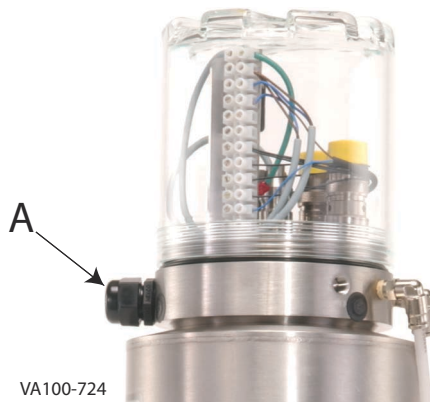

Figure 4 - Control Top Wire Connection Point
6. Connect the electrical control cord to the valve at location A (see Figure 4).